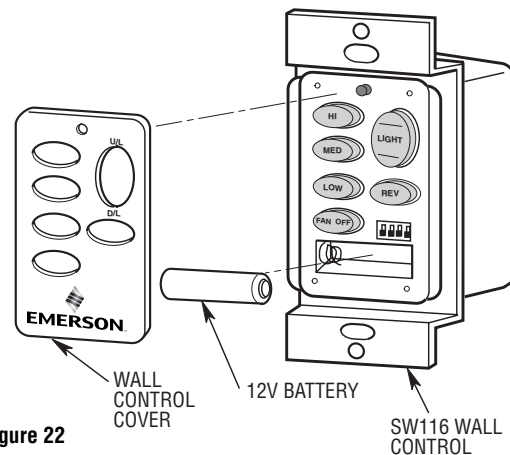

Figure 22
1. Install the 12V battery (supplied) into the wall control (Figure 22).
2. The SW116 wall control is supplied with a white, ivory, or almond color cover. Choose the style that best suits your needs and snap the cover onto the wall control (Figure 22).